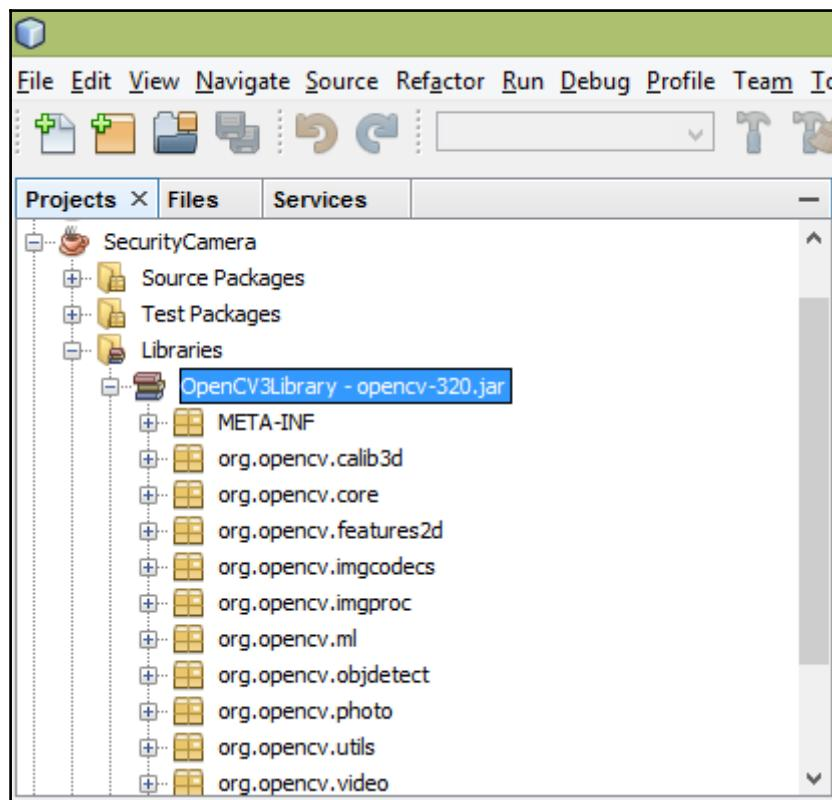

Figure 7-11: NetBeans Project Explorer
7. OpenCV3Library is now visible as OpenCV3Library – opencv-320.jar under the Libraries node in the **Projects** explorer (Figure 7-11):